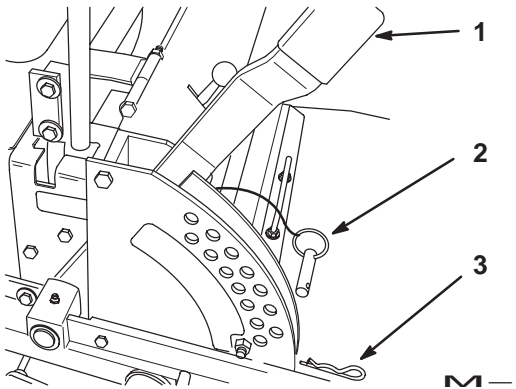

Figure 22
1. Raise the height-of-cut lever to the transport position (also the 5 in. (127 mm) cutting height position) (Fig. 22).
2. To adjust, remove hairpin cotter and clevis pin from height-of-cut bracket (Fig. 22).
3. Select hole in height-of-cut bracket corresponding to the height-of-cut desired and, insert clevis pin (Fig. 22).
4. Secure clevis pin with hairpin cotter (Fig. 22).